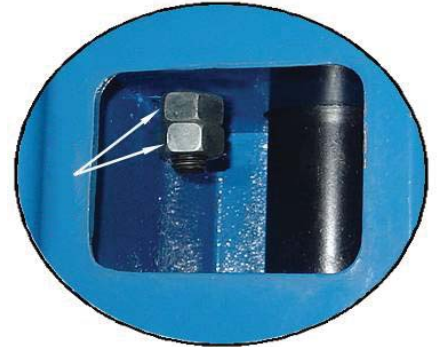

Fig. 35
1. Adjust the synchronizing cables (See Fig. 35)